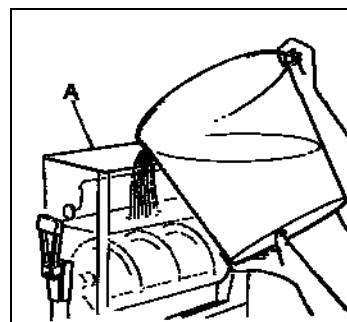

Fig. 7
- Pour the mix obtained into the bowl respecting the maximum capacity of 12 litres (see fig.7).